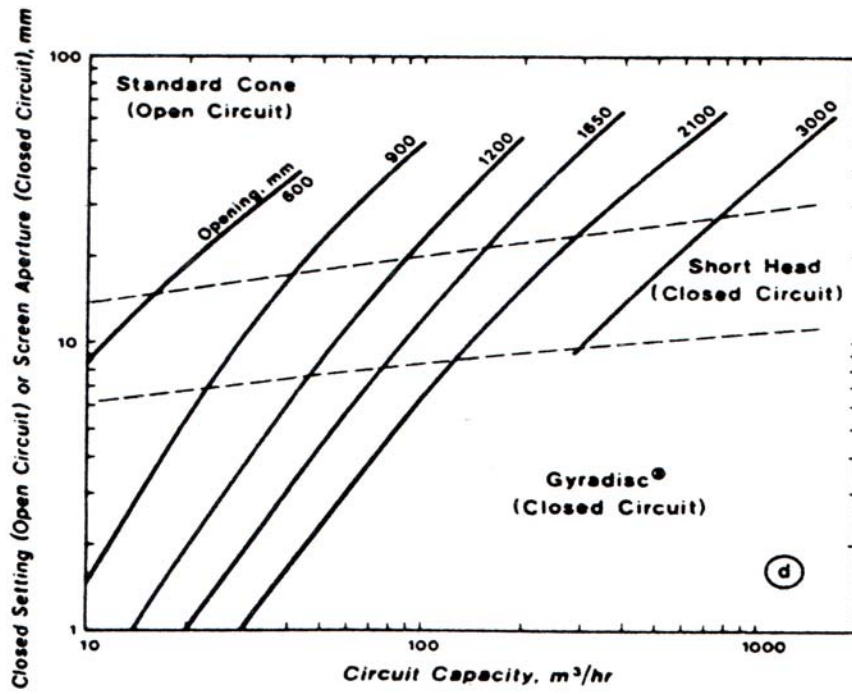

Figure Q5 / Rajah S5
5. A comminution circuit received 2560 t/shift (8 hours) of -75 cm diameter ore from mine. Bulk density of the ore is 1.8 t/m^3 . Using the information provided in **Figure Q5** (a), (b), (c) and (d), construct the process flowsheet to reduce the ore size to -0.01 cm ($100 \mu\text{m}$). Select the size and number of unit operations required at each stage. State the advantages of the selected crushers and mills.